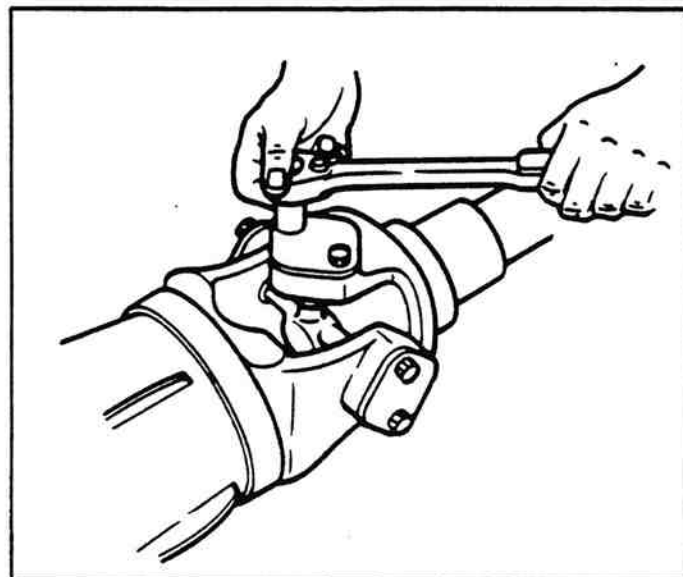

Figure 2-5. Disconnecting Universal Joint.
4. Disconnect the driveline universal joint from the pinion input yoke or flange on the carrier (figure 2-5).